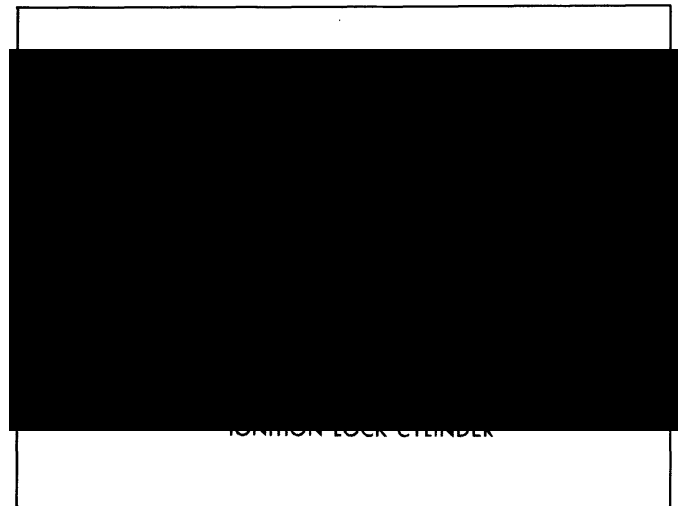

Fig. 3B-68--Ignition Lock Cylinder
3. Align the lock bolt on the lock cylinder and the tab on the anti-theft washer and the slot in the sleeve assembly (fig. 3B-69). Push the sleeve all the way onto the lock cylinder assembly, push the ignition key the rest of the way in and rotate the lock cylinder clockwise.